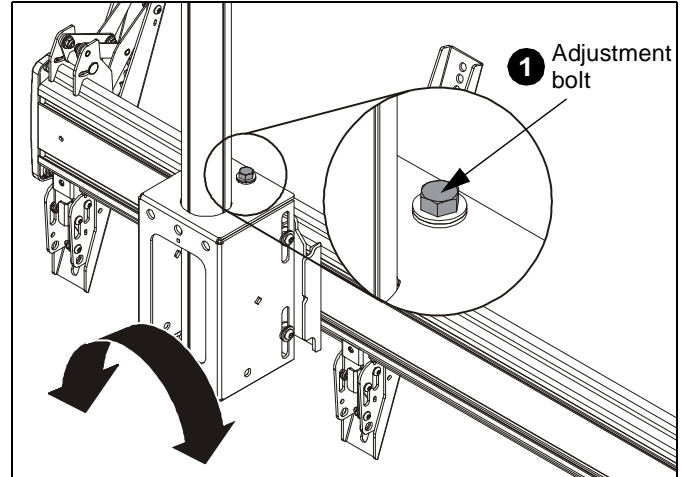

Figure 16
1. Turn the adjustment bolt in the direction necessary to level or adjust height. (See Figure 16)